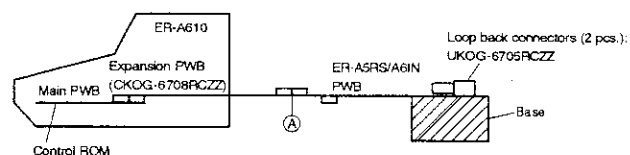

Fig. 7-4
Use an insulator base as that in Fig. 7-4 (shaded section) and perform servicing.
(Note) The option I/F PWB should be held horizontally so that no excessive stress is applied to connecting section (A) in Fig. 7-4.